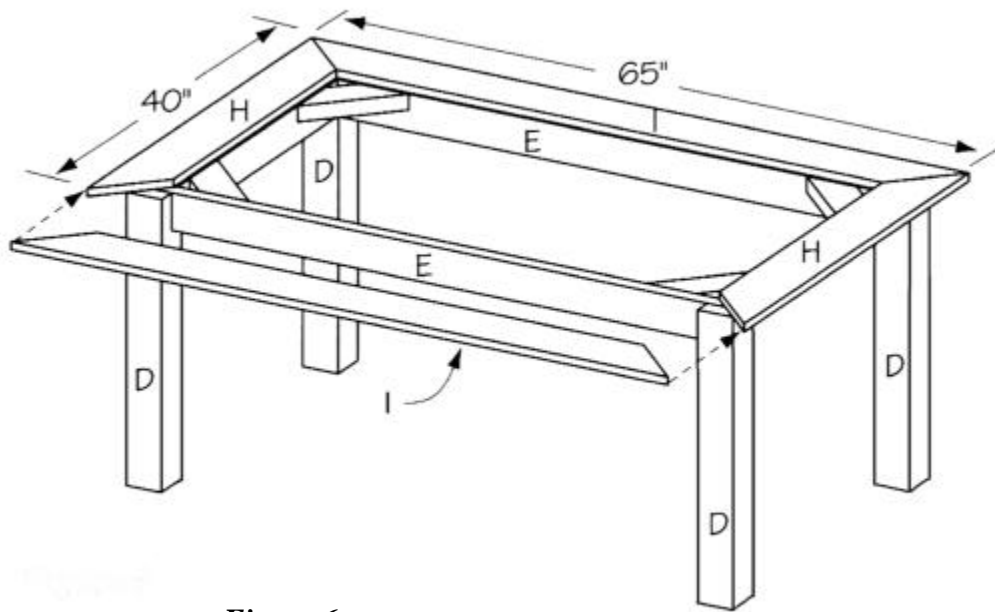

Figure 6
5. Place the four bottom frames (H and I) on the base assembly and fit them together to form a rectangle, measuring 65 x 40, as shown in *Figure 6*. This rectangle will extend past the legs (D) by 2-1/2 inches on each side. When you are satisfied with the arrangement, glue and screw the bottom frames (H and I) to the long and short side rails (E and F) and to the corner supports (G), using 1-1/2 inch screws spaced about six inches apart. Use two 3-inch-long screws to screw through the bottom frame pieces (H and I) into each of the table legs (D).